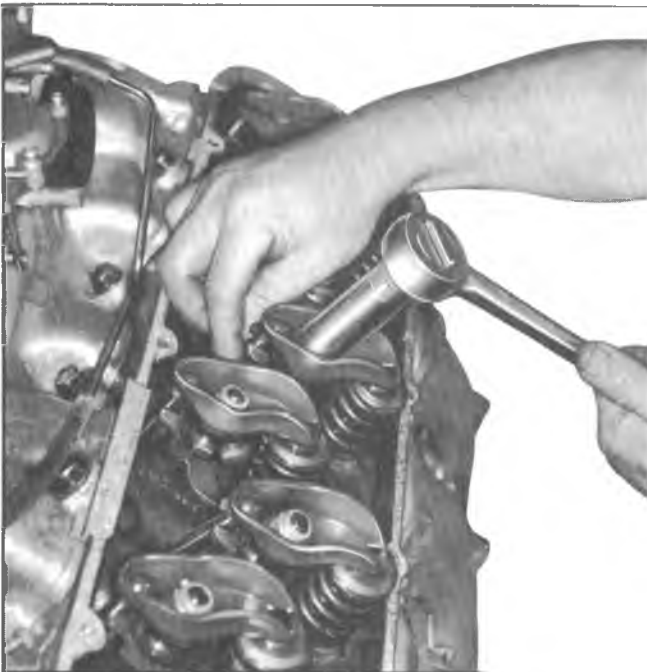

Fig. 2V—Valve Adjustment
- c. Back out adjusting nut until lash is felt at the push rod then turn in adjusting nut until all lash is removed. This can be determined by checking push rod side play while turning adjusting nut (fig. 2V). When play has been removed, turn adjusting nut in one full additional turn (to center lifter plunger).